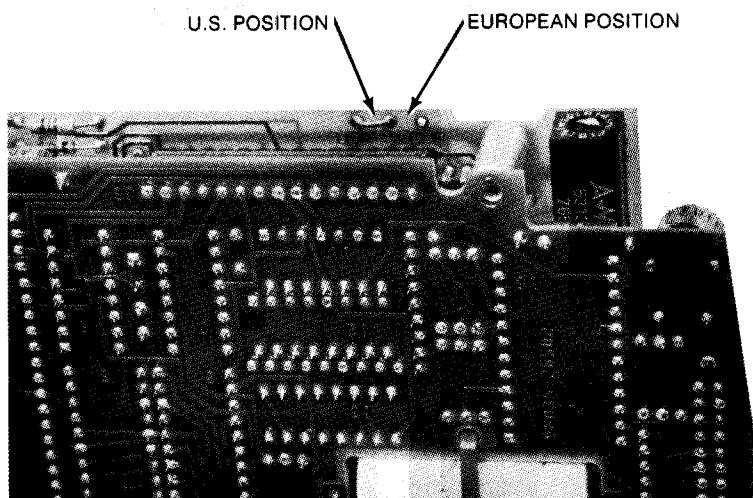

Figure 2-4. Date Code Format Jumper
The date code format is selected via a jumper on the 98035-66501 printed circuit board inside the 98035A Real Time Clock. Refer to Figure 2-4.
4. The Date Code jumper is located on the upper right-hand side of the board containing the select code switch (refer to Figure 2-4).